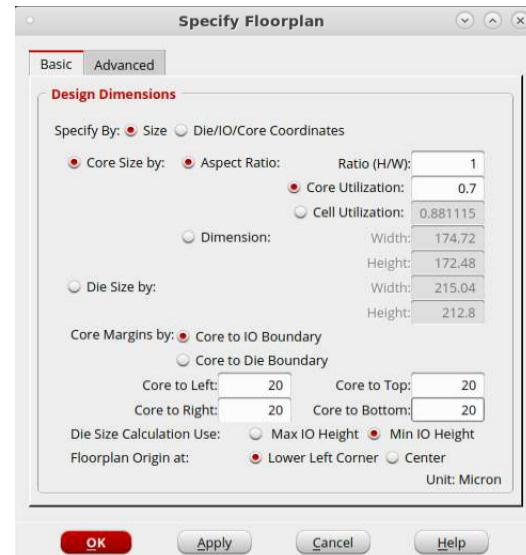

Figure 7: Specifying the floorplan.
2. Define the settings as in Fig. 7.